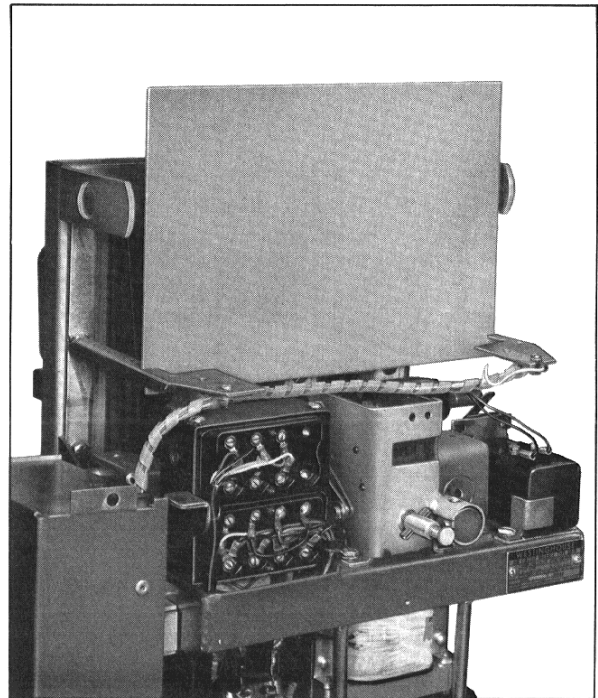

Fig. 18 Mounting of Barrier DB-15
- Once the brackets are secured the plastic barrier is mounted between them, this barrier acts as a shield between the Amptector and the front of the breaker arc chute, see Fig. 18.